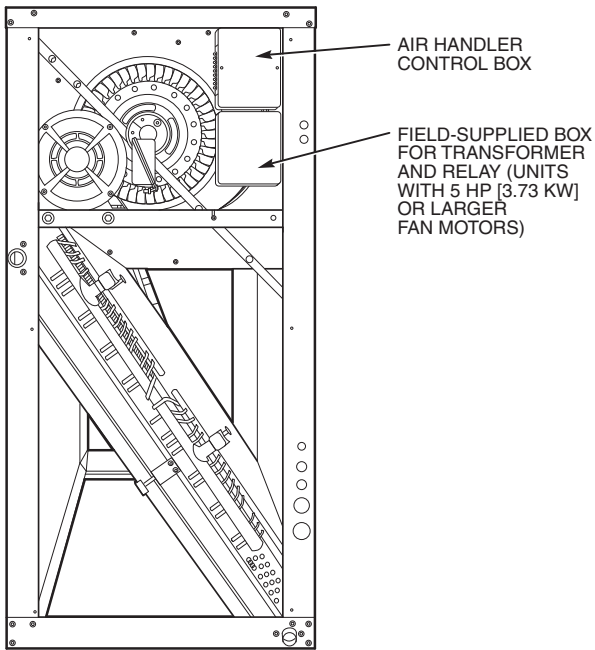

Fig. 6 — Installing Economizer Transformer and Relay
3. For air handlers without a circuit breaker in the control box (units with fan motor sizes less than 5 hp [3.73 kW]) mount the transformer and relay inside the control box. Use the holes in the transformer base and relay base as guides to drill holes into the box and fasten components in place with supplied no. 8 x 1/2-in. sheet metal screws. See Fig. 6.
4. For air handlers with a circuit breaker in the control box (units with fan motor sizes of 5 hp [3.73 kW] or greater), mount the supplied transformer and relay in a field-supplied and installed electrical box as shown in Fig. 6. Use the holes in the transformer base and relay base as guides to drill holes into the box and fasten components in place with supplied no. 8 x 1/2-in. sheet metal screws.